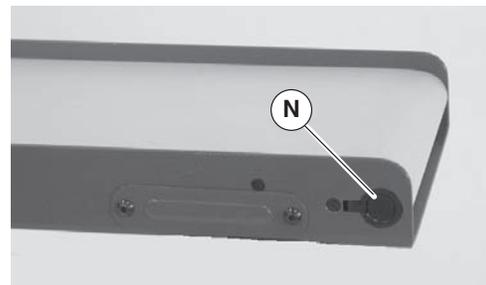

Figure 56
10. Install plastic plug (Figure 56, item N).